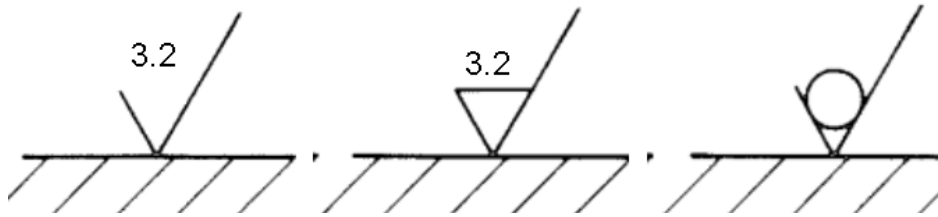

Figure 4: Symbols
- Replicate the following symbols as shown in Figure 4, in AutoCAD and insert a Note explaining what each symbol means.